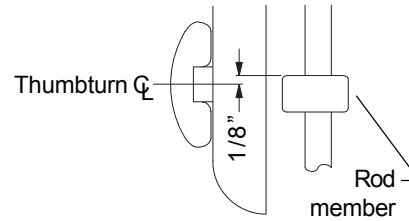

Figure 2. Rod member adjustment.
- E. Adjust rod member so top surface is 1/8" above the center line of the thumbturn (Figure 2). Tighten rod member socket set screws.